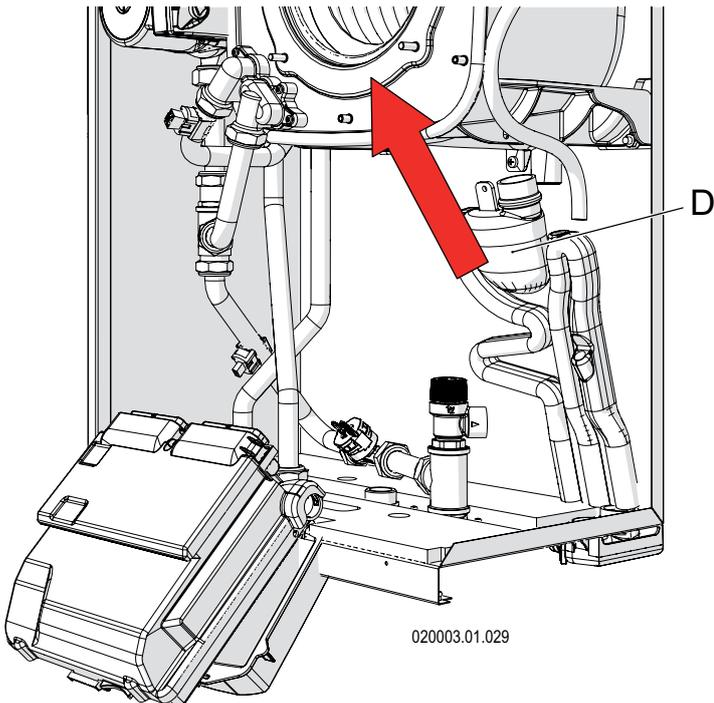

Figure 8.4 - Removing condensate collection siphon
- 1.- with the appliance on, open a domestic hot water cock to maximum in a way that the burner is at maximum power and the level of liquid present inside the siphon tank "D" lowers (see figure 8.4);